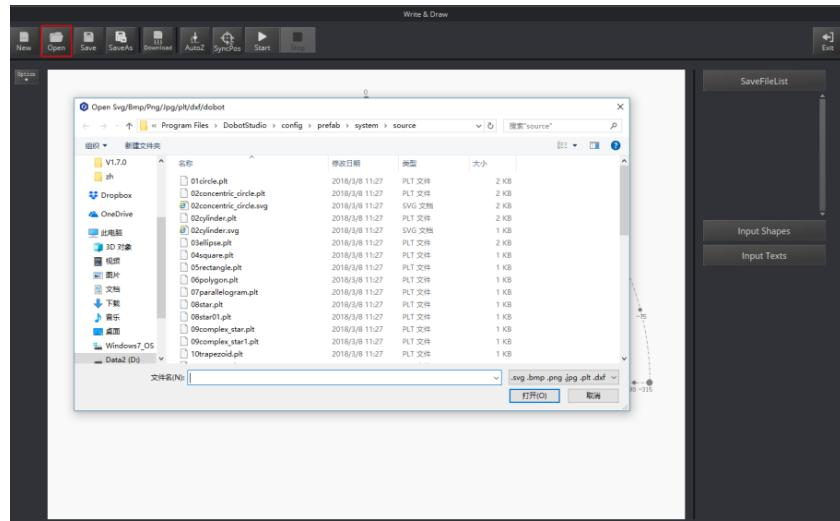

Figure 5.40 Open a PLT or SVG system image file
*InstallatonDirectory\DOBOTStudio\config\prefab\system\source*, as shown in Figure 5.40. You can also import your custom PLT or SVG image file.